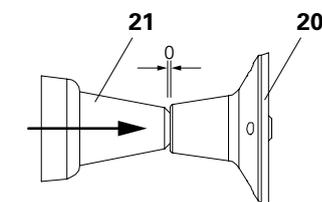

Fig. A5.04a
- Fully insert the Screw-On Cone-2 M24/DW 20 (21) into the Threaded Anchor Plate DW 20 (20). (Fig. A5.04a)
- Ensure the Anchor Sleeves are completely screwed in (Fig. A5.04a + A5.04c).